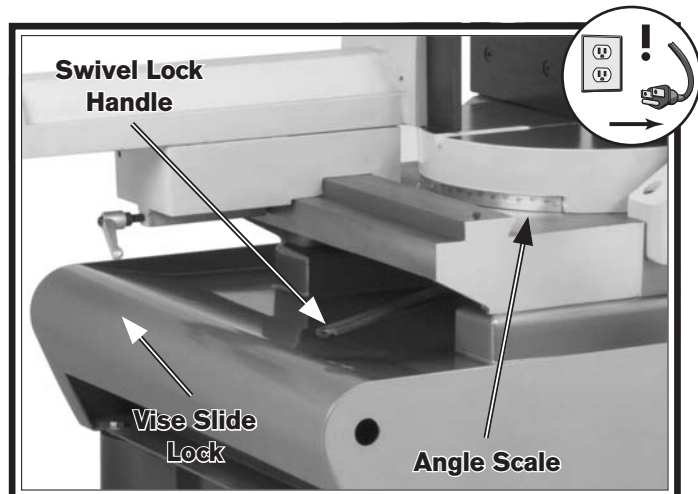

Figure 28. Swivel base.
2. Loosen the lock handle shown in **Figure 28**, then swivel the headstock to the desired angle, using the angle scale as a guide.
3. Loosen the vise slide lock (see **Figure 28**).